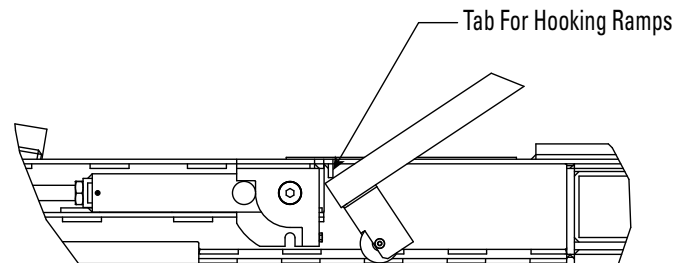

Figure 18
2. Hook Ramps to the Lift Mainframe by hooking the tab from Mainframe into slot on the Ramp (see Figure 18).